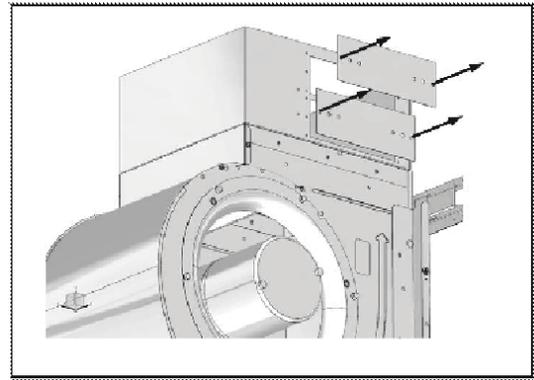

Fig. 5 – Heater Collar Cover Plate Removal A210070
4. Remove the heater collar cover plate(s) (see Fig. 5)